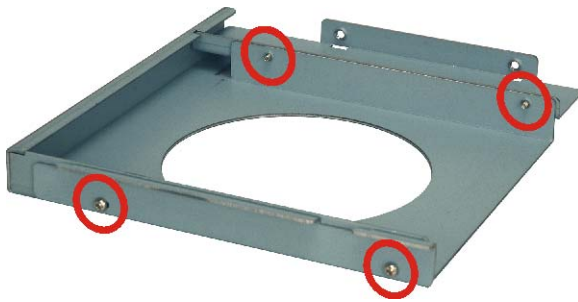

Figure 3-8: CD Drive Blank Plate Assembly
Step 6: The CD drive blank plate assembly consists of a blank plate and two brackets that attach the assembly to the chassis. The two brackets each have two screws that attach them to the blank plate. Remove the four screws that attach the brackets to the blank plate. **Figure 3-8** shows the underside of the CD drive blank plate assembly with the four screws to be removed.